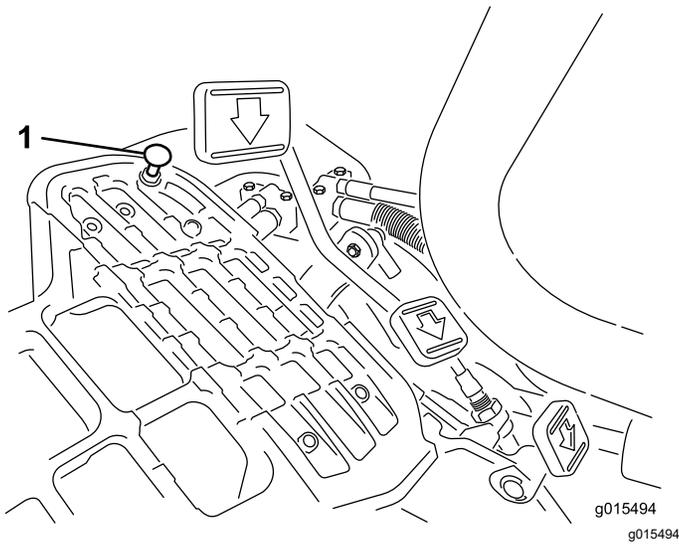

Figure 50
To obtain the maximum-transport speed, put the functional control lever in the TRANSPORT position and press down on the traction pedal. If the pedal contacts the stop (Figure 50) before you feel tension on the cable, perform the following adjustment procedure:
1. Put the functional-control lever in the TRANSPORT position and loosen the locknut securing the pedal stop to the floor plate (Figure 50).